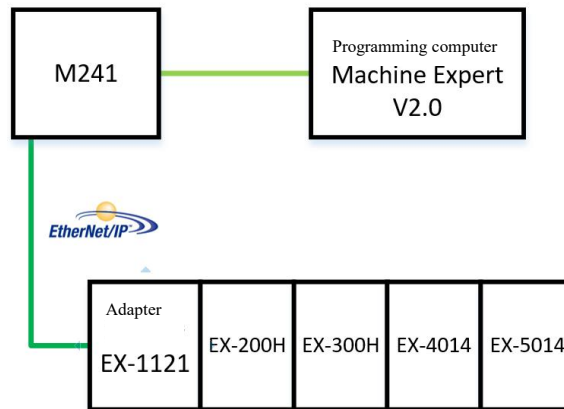

Figure 5-8-1 Communication connection diagram
1. Communication connection diagram, as shown in Figure 5-8-1